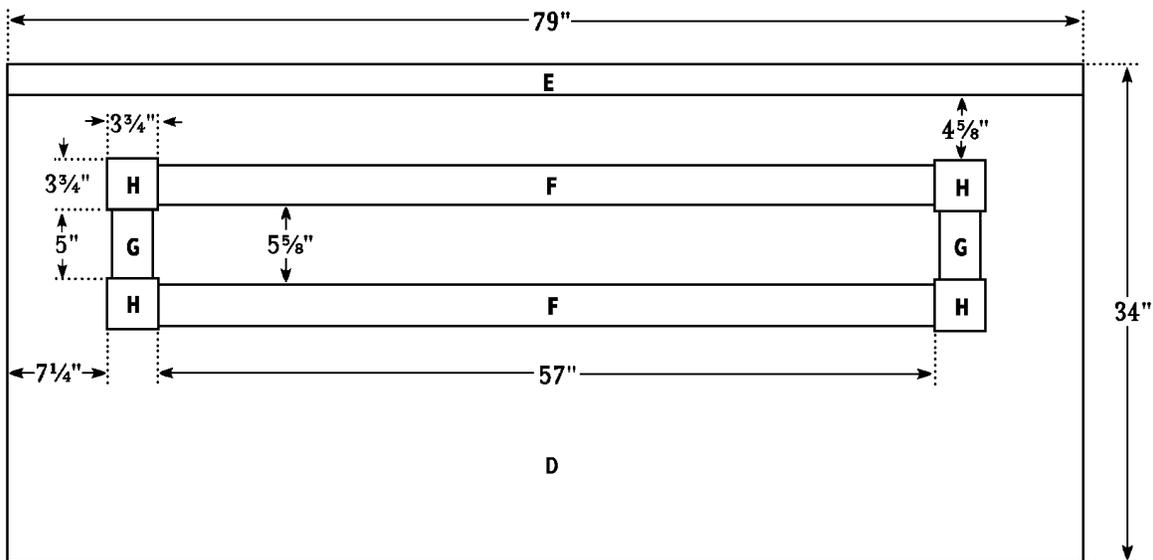

Figure 4
1. Cut one Headboard (D) from  $\frac{3}{4}$ " plywood measuring 79 x 34 inches.
2. Cut two Top Rails (E) from 2-1/4" handrail, each measuring 79 inches.
3. Center one Top Rail (E) over the one 79-inch-edge of the Headboard (D), as shown in Figure 4. Apply glue to the meeting surfaces, and nail through the Top Rail (E) into the edge of the Headboard (D) using 2" finishing nails spaced every 6 inches. Set the remaining Top Rail (E) aside. It will be used later on the Footboard.
4. Cut two Long Moldings (F) from 3-inch-wide beaded molding, each measuring 57 inches.